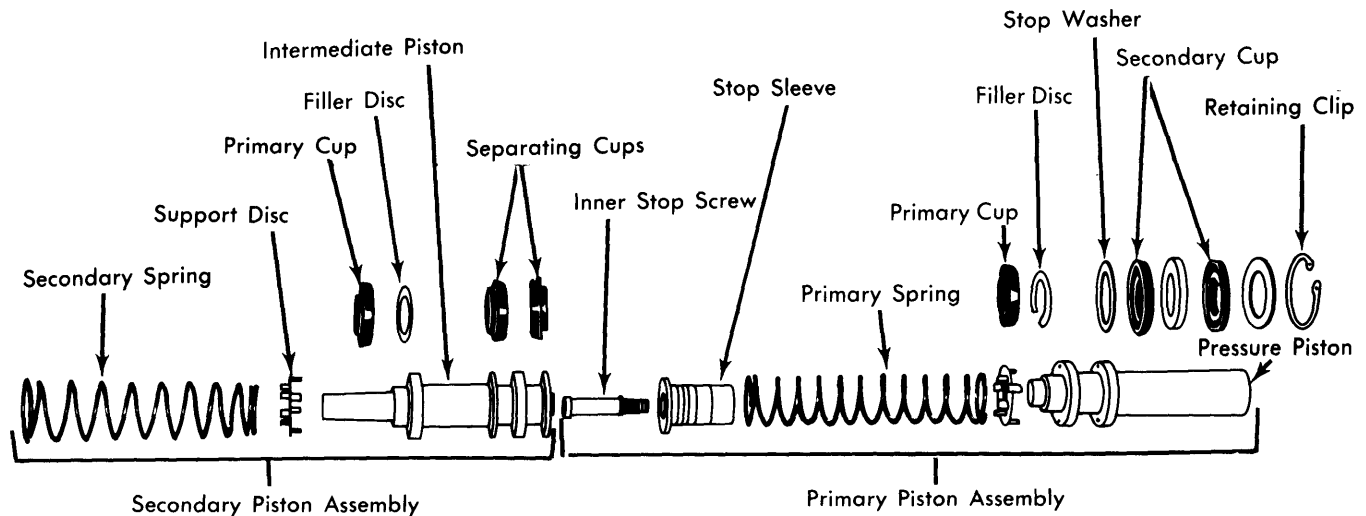

Fig. 3 Master Cylinder Piston Assembly
**Reassembly** – Reverse disassembly procedure and note the following: Make sure pressure and intermediate piston cups are installed correctly (See Fig. 3). Use new "O" ring on master cylinder between cylinder and power unit.